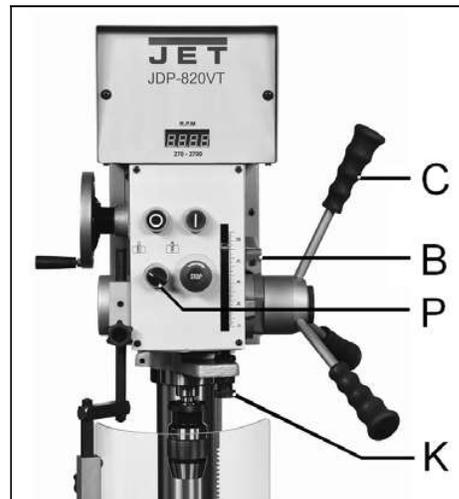

Fig 5
To drill multiple holes at the same preset depth, use the depth stop (K, Fig 5) Fig 5.
1) Set the select switch (P, Fig 5) to the "Tapping" position.
2) Set the depth stop (K) to the desired position.